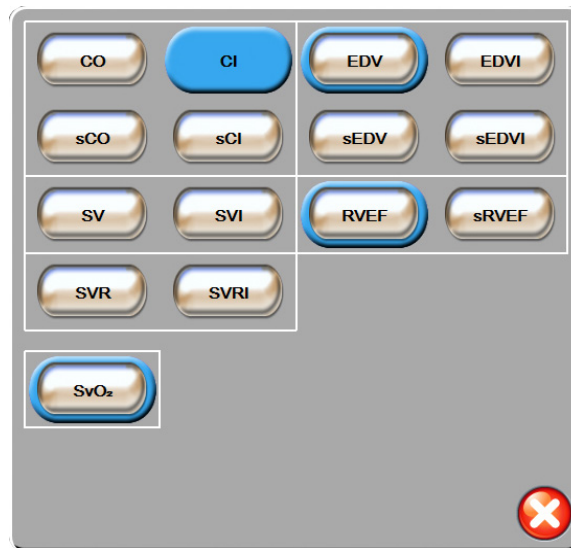

Figure 5-4 Example of key parameter selection popup window
- 2 A popup window will show the selected parameter highlighted in color and other parameters currently being displayed outlined in color. Available parameters appear on the screen without highlights. Figure 5-4 shows the popup window that will appear while selecting continuous parameters and monitoring with the HemoSphere Swan-Ganz module.